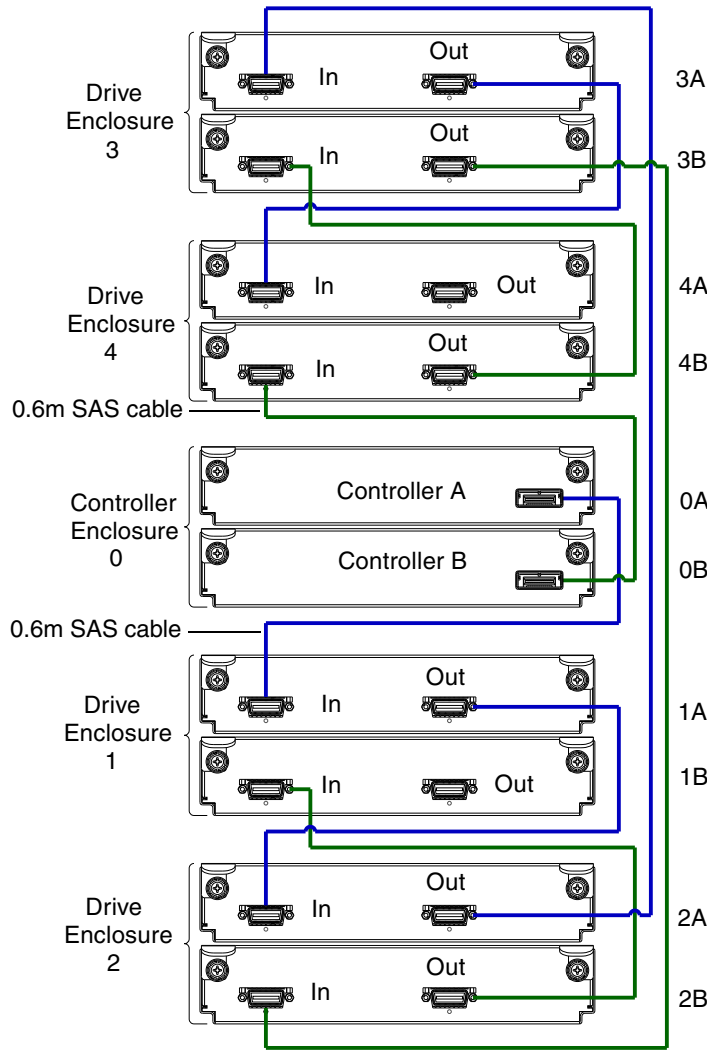

Figure 3 Fault-tolerant cabling between a dual-controller enclosure and four 2130 drive enclosures
- When configuring three or more drive enclosures to a 2722/2732, the 0.6 meter cable lengths require placement of a rack mounted controller enclosure in the middle of the component stack, adjacent to the first and last expansion enclosures identified during discovery (see Figure 3 on page 22).